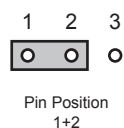

Figure 4 J7 — Default Position
- › **Pin 1** (left) + **Pin 2** (center) position — In this position, the analog reference is terminated with an 75ohm resistor. This configuration is to be used for point-to-point cabling, or on the last card of a daisy chain topology. This is the default position (**Figure 4**).